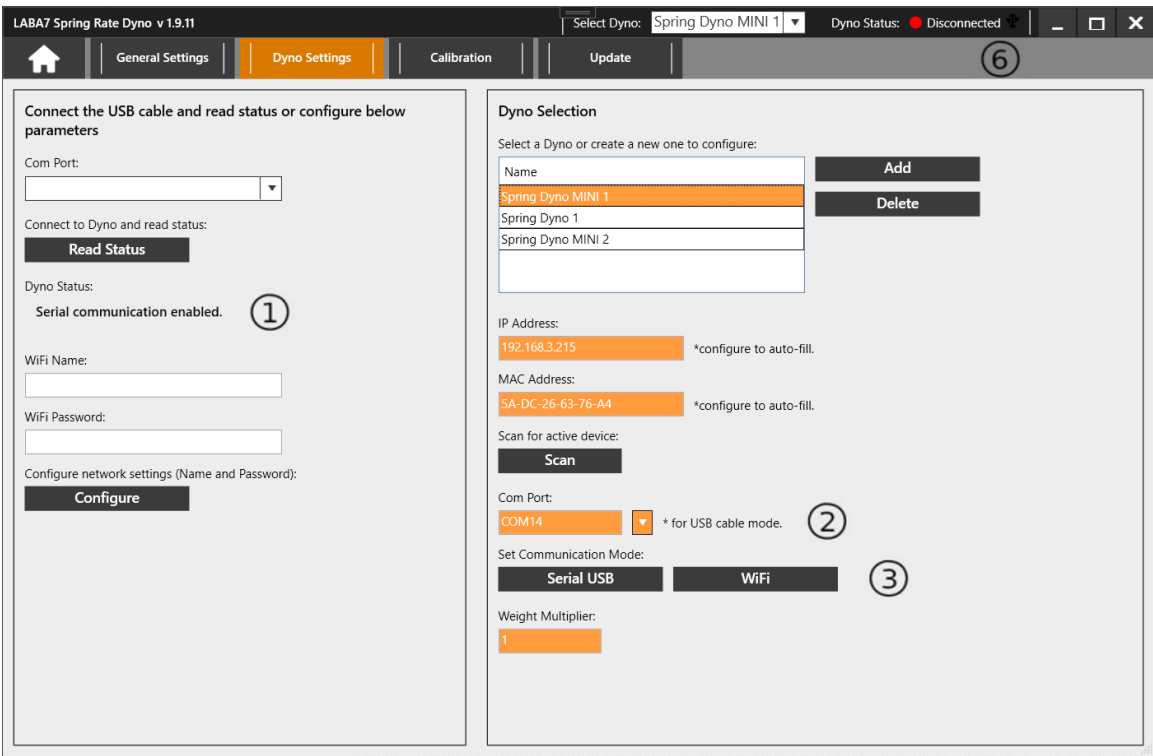

Figure 13
9. Note the Status that was received from the Dyno (Figure 13 – Step 1).
11. Select the Com Port of the connected Dyno from the drop-down menu in the Dyno Selection area (Figure 13 – Step 2).
12. Click on the Serial USB button to enable the USB communication mode in the Dyno (Figure 13 – Step 3).